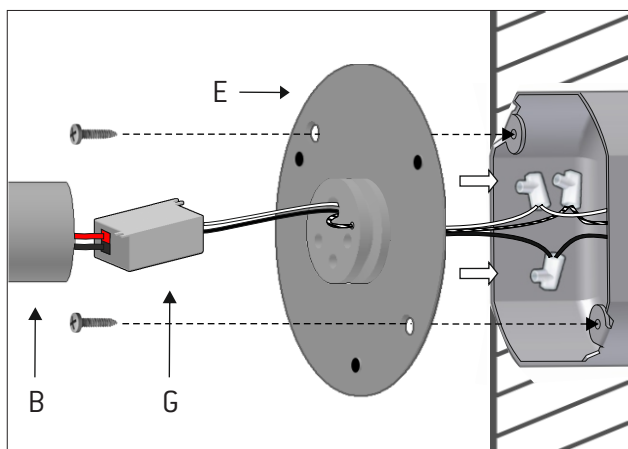

Figure 4A
Make the electrical connections. Leave the driver (G) inside the lamp body (B). Attach the mounting bracket (E) to the junction box. Figure 4A.